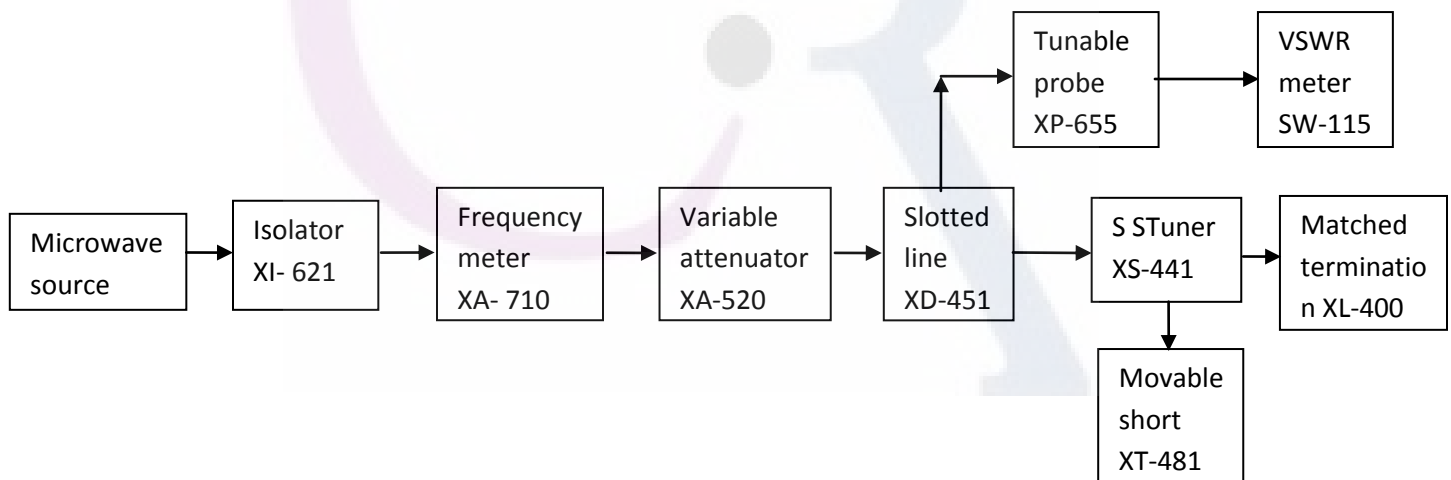

Fig.1 **SET UP FOR IMPEDANCE MEASUREMENT**
1. Set up the equipment as shown in fig.1. Keeping the axis of both the antennas in same line.
1. Set up the equipment as shown in the figure.1